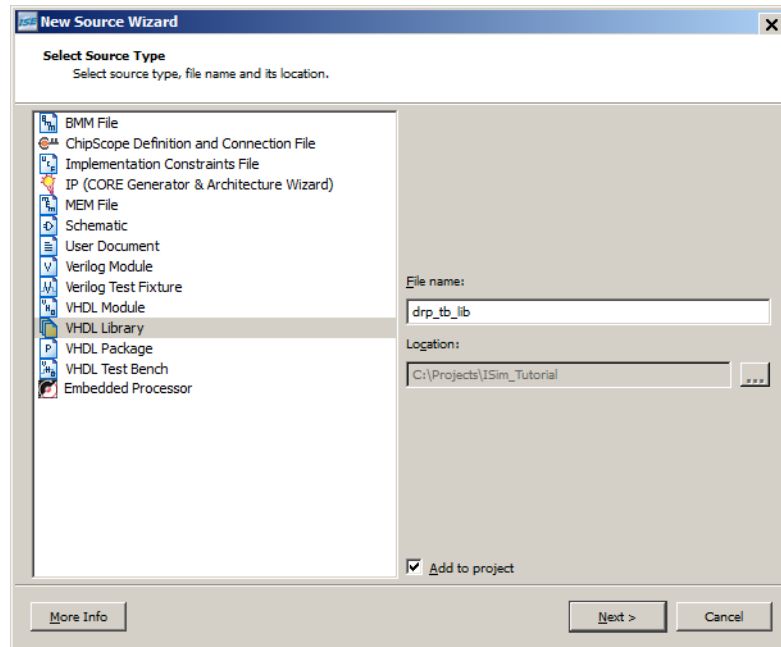

Figure 2-4: Select Source Type
- Type **drp_tb_lib** for the VHDL library name. (Refer to Figure 2-4, page 15).